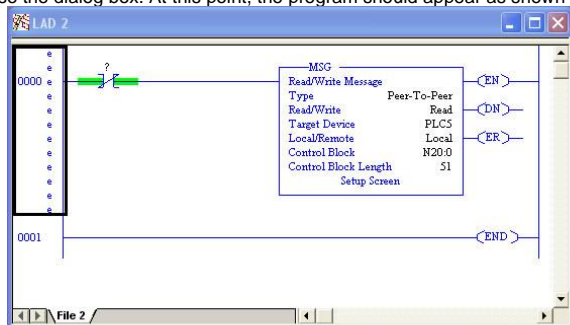

Figure 61: PLC Program after MSG Instruction Configuration
- f) Close the dialog box. At this point, the program should appear as shown in Figure 61.